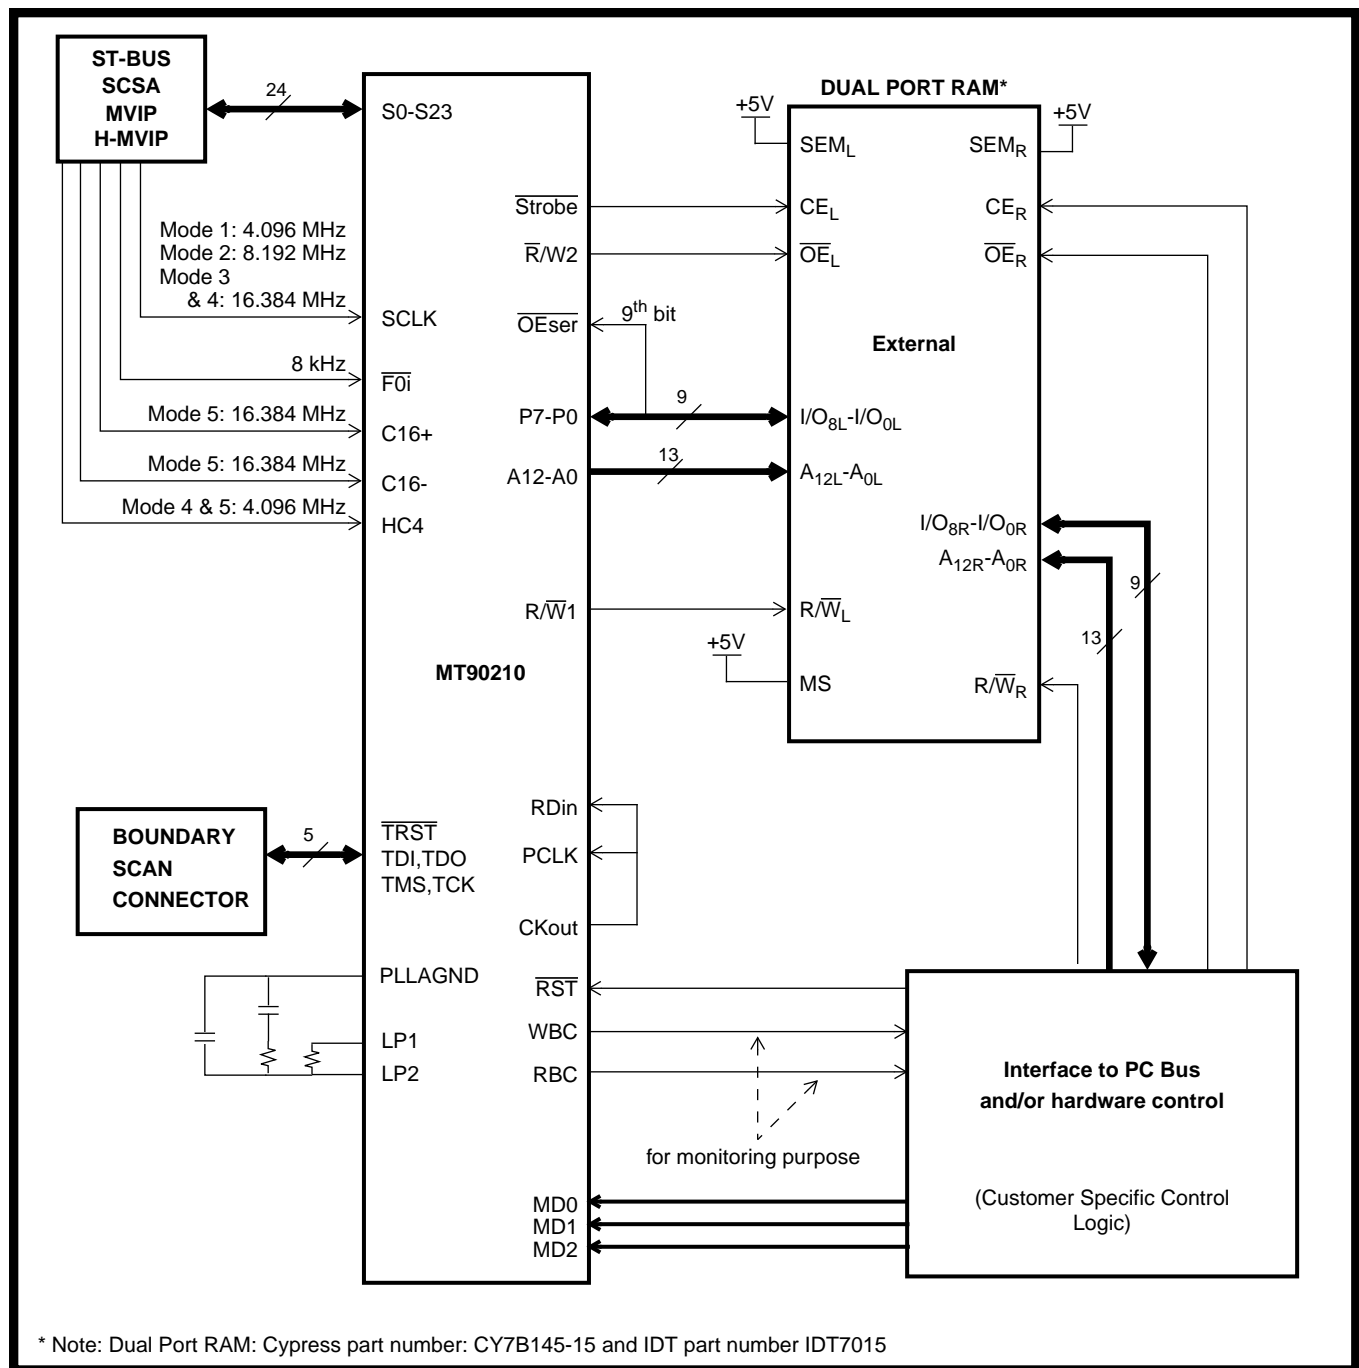

Figure 9 - Functional Example of the MT90210 Application Circuit
port RAM and connecting the ninth bit to $\overline{\text{OEser}}$ as shown in Figure 9, the processor may disable an individual channel by setting the ninth bit for that channel in the transmit (TX) portion of the current block. The remaining 8 bits for this channel may be any value since they are ignored by the MT90210 when the ninth bit is 1. To avoid contention on the serial bus, it is recommend that the user configure all serial streams as inputs at start-up. This may be done by setting all $\overline{\text{OEser}}$ bits to 1 in the TX portions of both memory blocks. In mode 3, the serial streams are permanently configured as 12 inputs and 12 outputs, and the state of $\overline{\text{OEser}}$ is ignored.
provided by the MT90210: (i) the 24/2 mode in which all 24 lines operate at 2.048 Mb/s and (ii) the mixed rate of operation in which 16 streams operate at 2.048 Mb/s and the remaining 8 streams operate at 8.192 Mb/s data rates. When operating at 8.192 Mb/s rates, the MT90210 automatically terminates the C16+ and C16- differential clocks specified by the H-MVIP specifications. Figure 9 shows a functional block diagram of the MT90210 in a typical application.